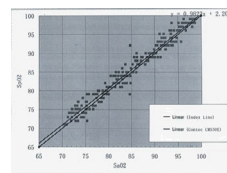
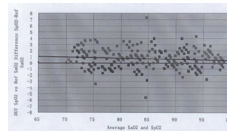

Figure 2 SpO2 regression plot
Figure 3 Bland-Altman plot
5. **Measurement Accuracy:** ±2% in stage of 70% ~ 100% SpO2, and meaningless when stage being smaller than 70%. ±2 bpm during the pulse rate range of 30 ~ 99 bpm and ±2% during the pulse rate range of 100 ~ 250 bpm. Clinical Trial :SpO2 regression plot & Bland-Altman plot. Refer to Figure 2 & Figure 3.